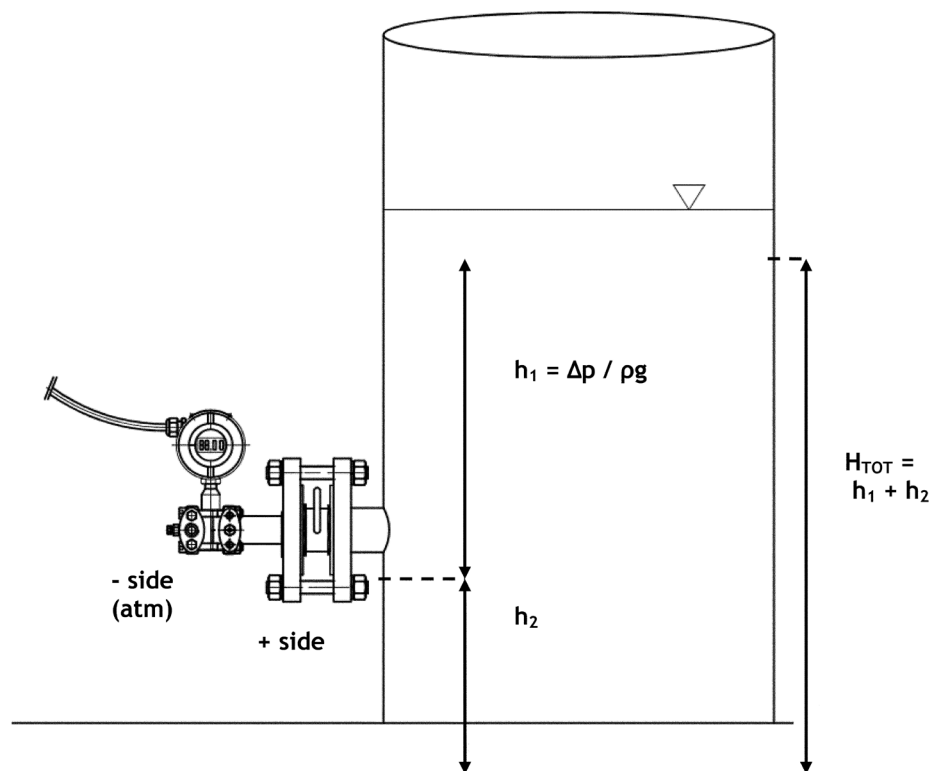
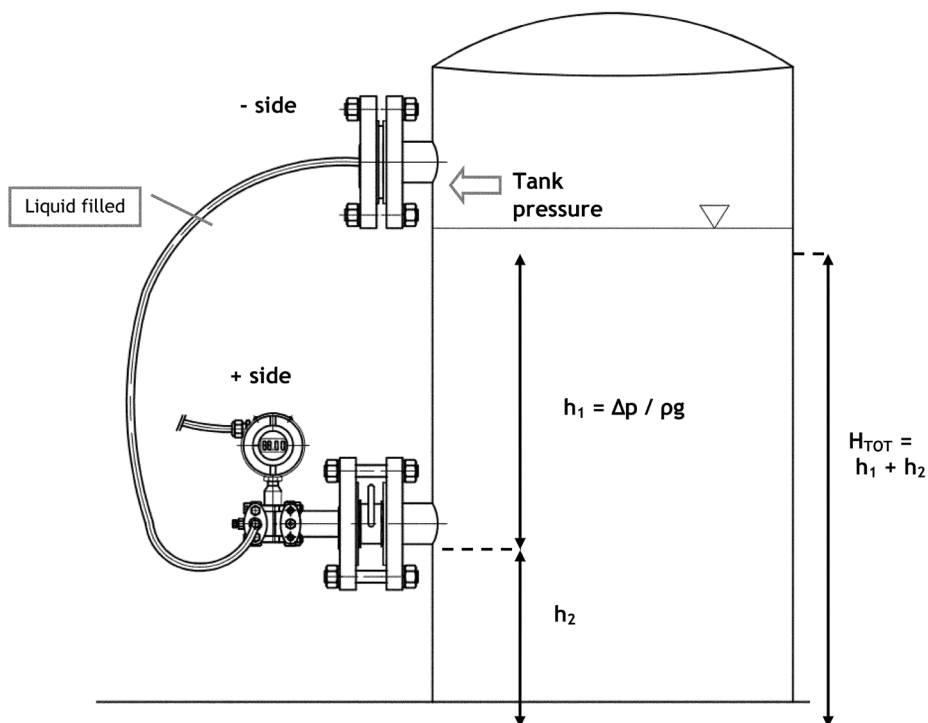

Fig. 3 - Level measurements in open vessels
Fig. 4 - Level measurement in closed vessels
The transmitters LD377BL may be used for relative pressure measurements or level measurements in tanks or piping. In **Fig. 3** the simplest mounting, direct on piping, is illustrated.
Fig. 3 e Fig. 4 show some of the installations recommended by ISO 2186 Standards. Refer to this Standard for more information.
- Referring to **Fig. 4**: the descending pipes can be filled with condensate vapors of the process fluid or with suitable inert liquid to prevent direct contact with the transmitter diaphragm.